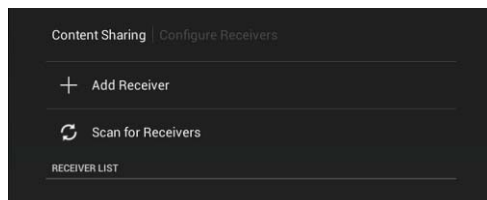

FIG. 41 Content Sharing page - Configure Receivers Options window
In the *Content Sharing* page, press **Configure Receivers** to invoke the *Configure Receivers Options* window (FIG. 41):
1. In the Content Sharing page - *Configure Receivers Options* window (see FIG. 41 on page 38), press **Scan for Receivers**. This initiates a scan of the local network for Enzo units.
- In the Content Sharing page - *Configure Receivers Options* window (FIG. 41), press **Add Receiver**. This invokes the *Configure Receiver* window and on-screen keyboard.